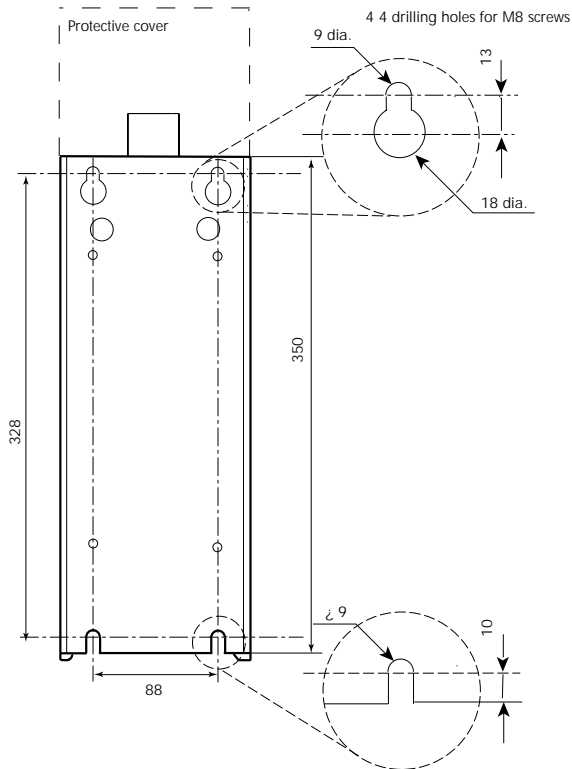

Figure 2-5 Drilling & mounting dimensions (mm) for TE10P controllers
- Drill four holes in the support panel to the dimensional values given in Figure 2-5